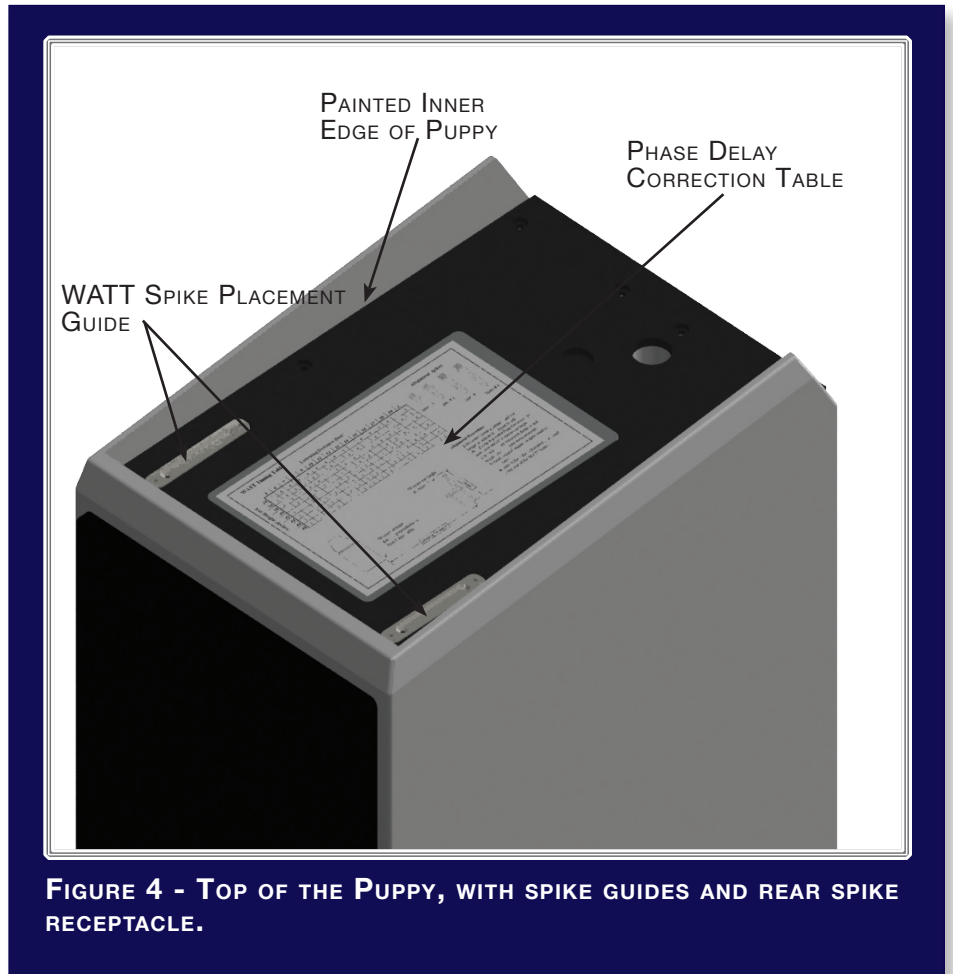

FIGURE 4 - TOP OF THE PUPPY, WITH SPIKE GUIDES AND REAR SPIKE RECEPTACLE.
- Carefully, place the WATT's two front spikes into the rear of the Puppy guide track (see Figure 4). Hold the back of the WATT above the Puppy surface such that the rear spike does not damage the top of the Puppy. Carefully